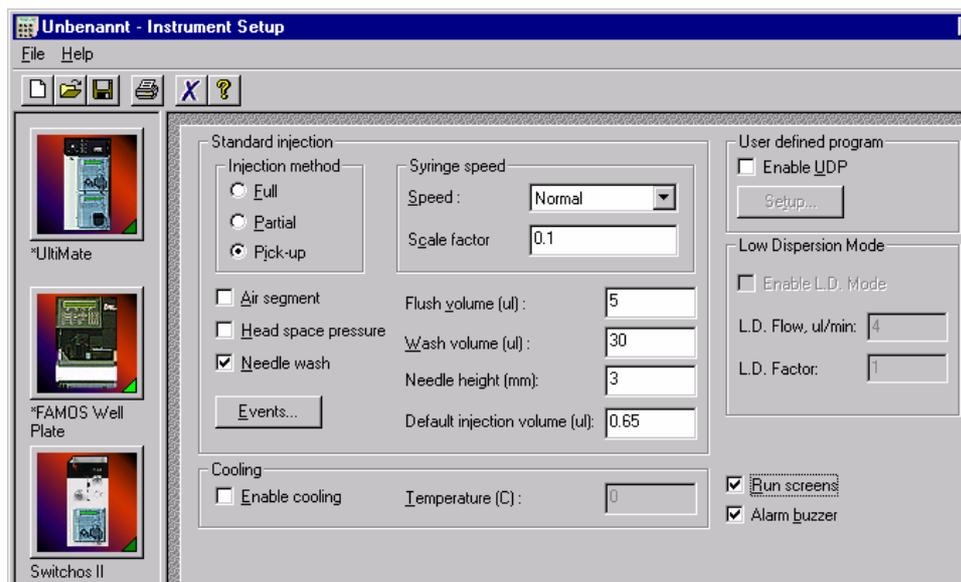

FIGURE 2-34 The FAMOS Setup Window
- Choose the *FAMOS* icon in the **Instrument Setup** window to display the FAMOS setup window (FIGURE 2-34).